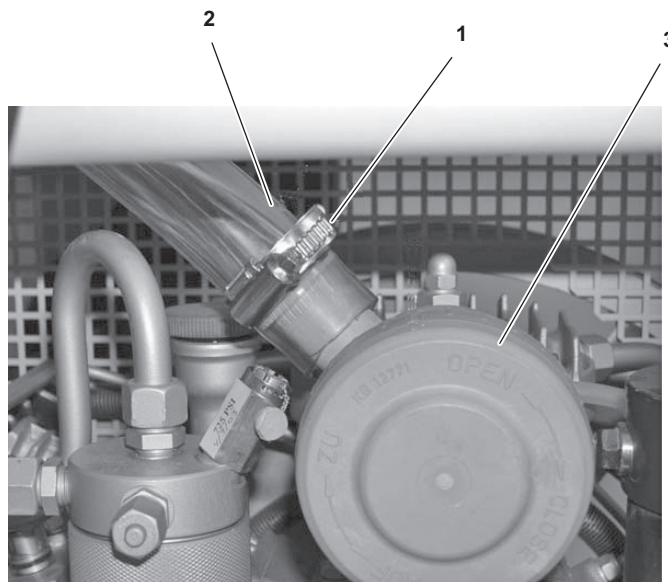

Figure 6-35. Air Inlet Hose, Hose Clamp, and Air Filter Housing
- (4) Place the hose clamp (figure 6-35, item 1) around the other end of the air inlet hose (figure 6-35, item 2). Do not tighten.
- (5) Push the other end of air inlet hose (figure 6-35, item 2) onto the air filter housing (figure 6-35, item 3) as far as it will go.
- (6) Secure the air inlet hose (figure 6-35, item 2) on the air filter housing (figure 6-35, item 3) by moving the hose clamp (figure 6-35, item 1) to the base of the air filter housing. Tighten the hose clamp with a screwdriver, turning CW until snug.